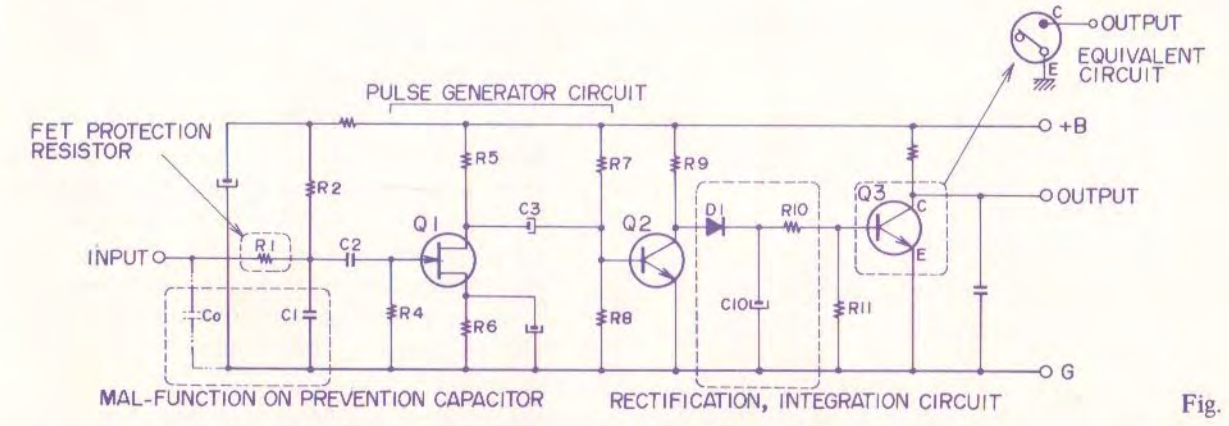

Fig. 13
1. TOUCH BUTTON SYSTEM CIRCUIT COMPONENT (Refer to Fig. 13)
As shown in Fig. 13, generally divided, the touch button system circuit is comprised of a pulse generator circuit, a rectifier circuit, and an integration circuit and includes a malfunction prevention capacitor and FET protection resistor, etc. Because it is necessary for the malfunction prevention capacitor shown by the dotted line to have a fairly high voltage, a shielded wire distribution capacitor is used with a capacitance of 50 to 60 PF. As shown by the equivalent circuit in the diagram, last stage transistor Q3 performs the exact same function as a micro switch.